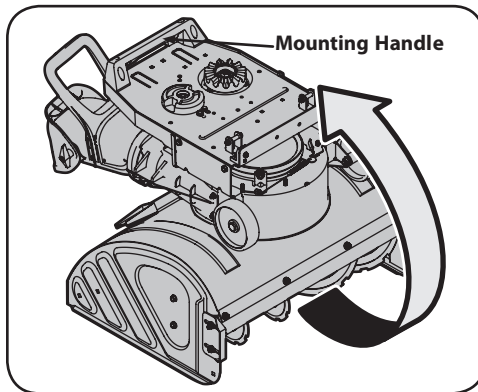

Figure 5-8
5. Carefully tip the FLEX™ Snow Thrower Attachment forward onto the front of the auger housing using the mounting handle called out in Figure 5-8.
10. Tip the unit upright using the Mounting Handle. See Figure 5-8.